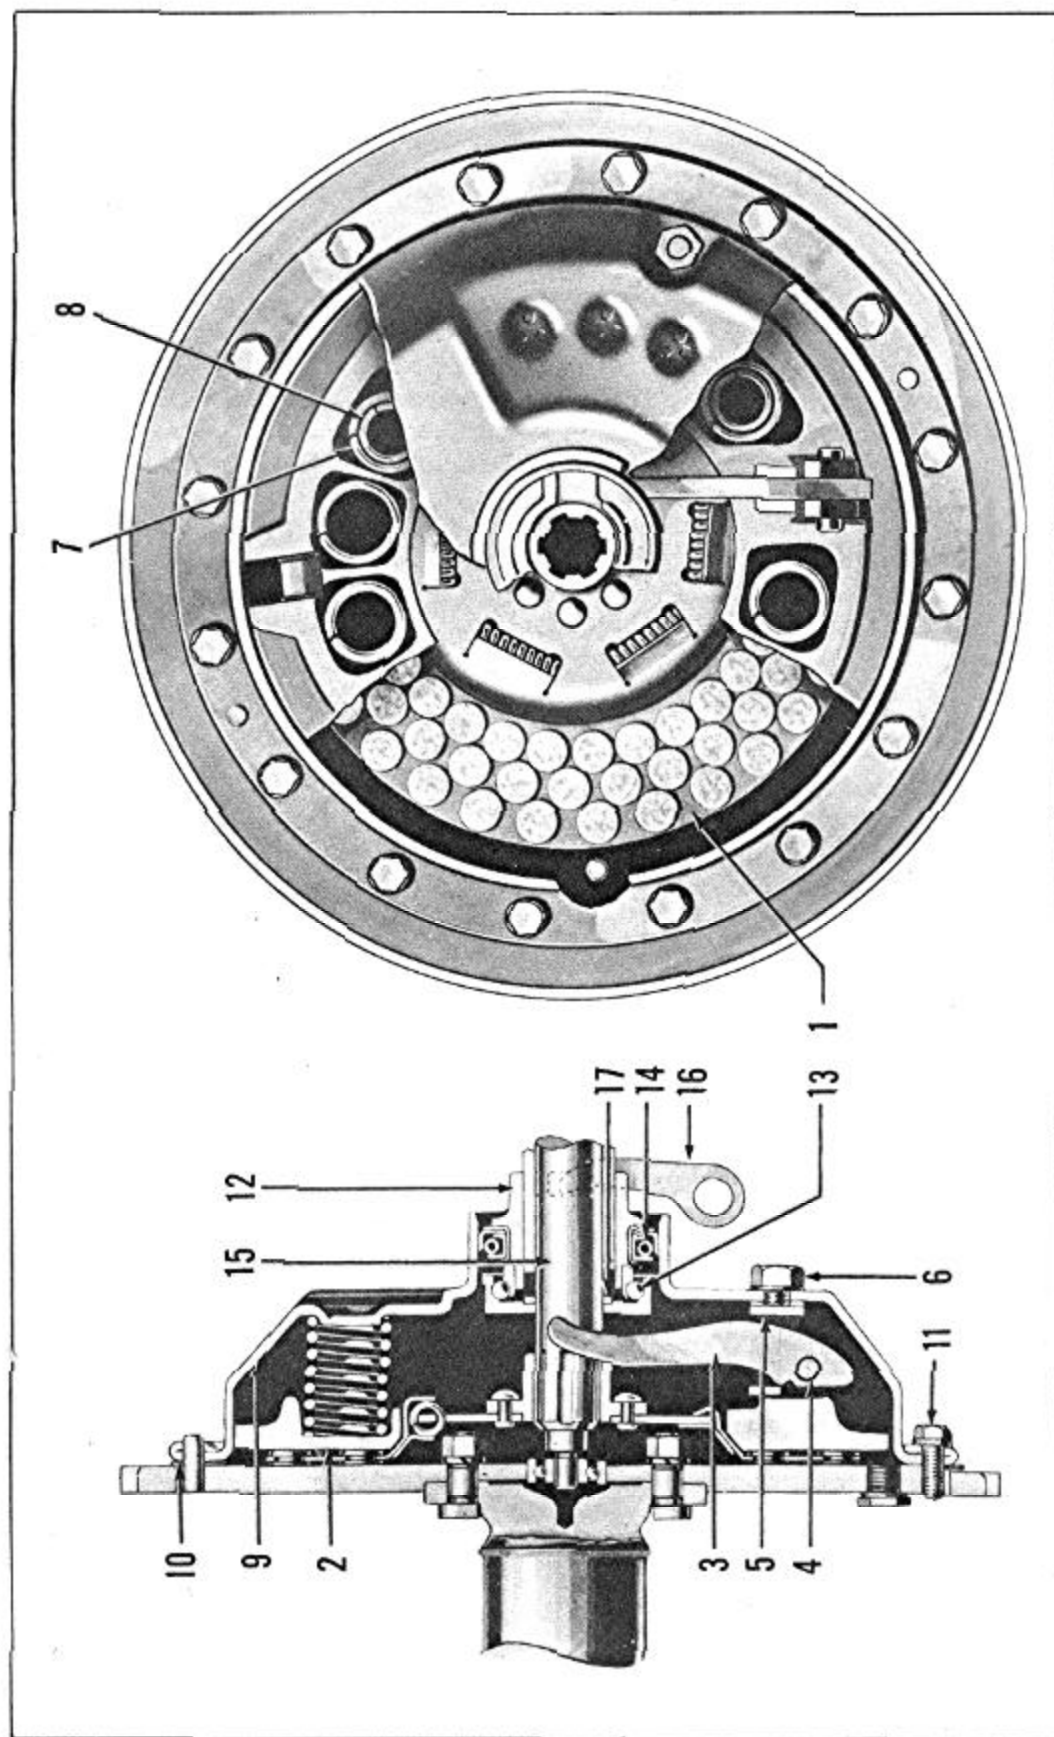

FIGURE 3
Details of the clutch may be seen in Figure 3.
This can be adjusted by loosening lock nut (A), Figure 3, removing cotter pin and clevis pin (C) and turning yoke (B) to increase or decrease the clearance as required. Replace clevis pin and cotter pin and tighten lock nut securely.